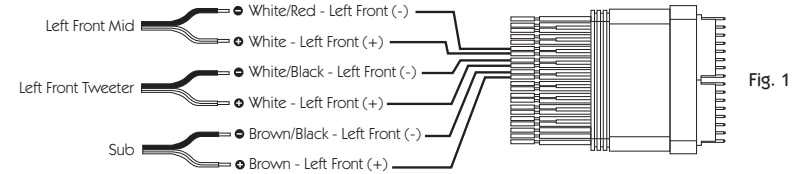

Fig. 1
2. Tap into the factory speaker and subwoofer (if applicable) wires. Connect signal in onto the re-Q5 harness. (Fig. 1)